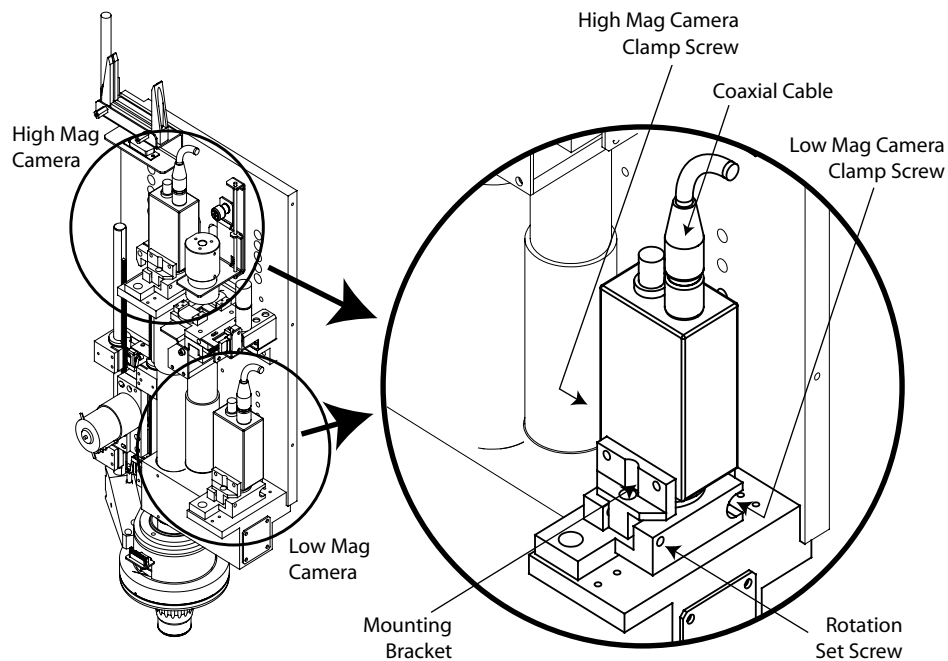

Figure 9-5 Replacing the Camera (Dual Mag Optics)
2. Disconnect the coaxial cable from the camera by pulling up on the connector; see Figure 9-5.